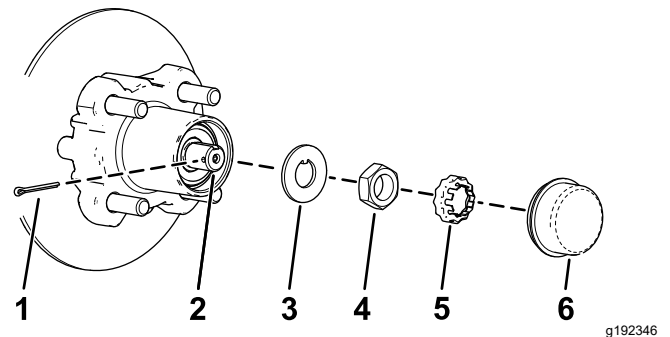
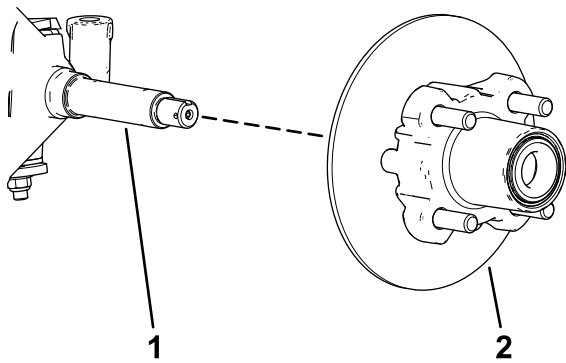

Figure 31
Figure 32
4. Remove the dust cap from the hub (Figure 31).
5. Remove the cotter pin and nut retainer from the spindle and spindle nut (Figure 31).
6. Remove the spindle nut from the spindle, and separate the hub and rotor assembly from the spindle (Figure 31 and Figure 32).